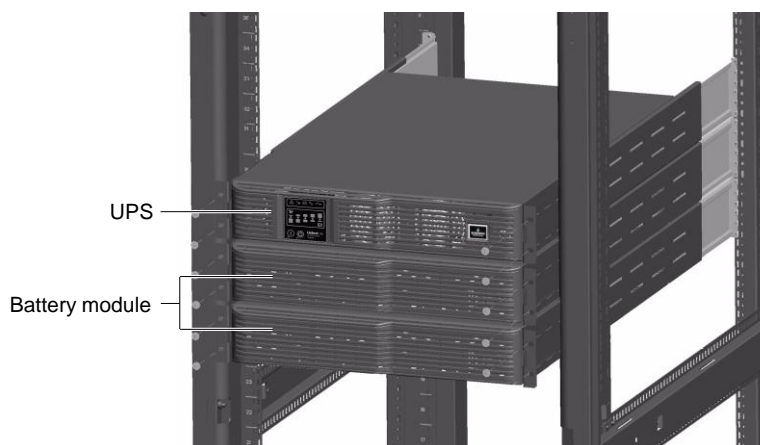

Figure 2-13 Installing UPS with battery modules
The installation method of the battery module is the same as that of the UPS. Repeat the installation procedures of the UPS to install and fix the battery modules and the UPS in the rack one by one, as shown in Figure 2-13.
- Install the battery modules first, start the installation from the bottom, and then place the UPS onto the top, as shown in Figure 2-13.